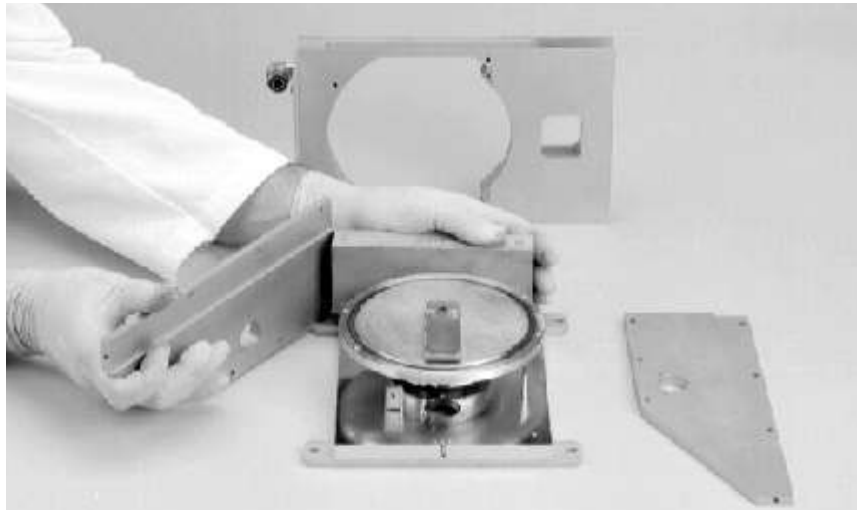

Figure 5-11. Correct technique for detaching pole pieces from magnet and base plate
Step 22. Remove the pole pieces from the remainder of the source. To do so, grasp the permanent magnet with one hand and the angled front end of the pole piece with the other, as shown in Figure 5-11. Then swing the front of the pole piece away from the source and carefully separate it from the rear edge of the magnet, rocking it slowly up and down if necessary to break it free from the magnet's very strong field.